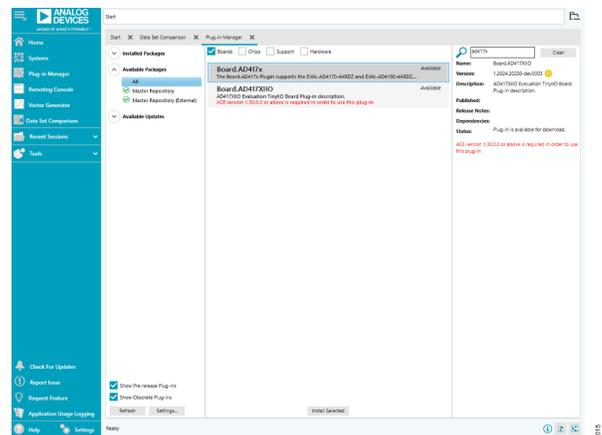

Figure 17. ACE Software Main Window
1. From the **Start** menu of the PC, select **All Programs > Analog Devices > ACE > ACE.exe** to open the **ACE** software main window shown in Figure 17.